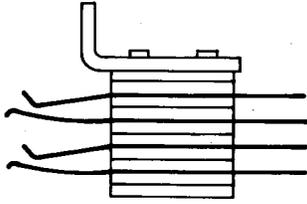

Fig. 11—467A Jack
**2.11 467A:** This multicontact jack (Fig. 11) consists of a metal bracket on which there are mounted two pairs of contact springs insulated from each other. The terminals are arranged for mechanical wrapped connections. This jack is used with the 240A plug on universal switch shelves in Step-by-Step Dial Telephone Systems. The 467A jack mounts on a 229-type or 230A terminal strip.